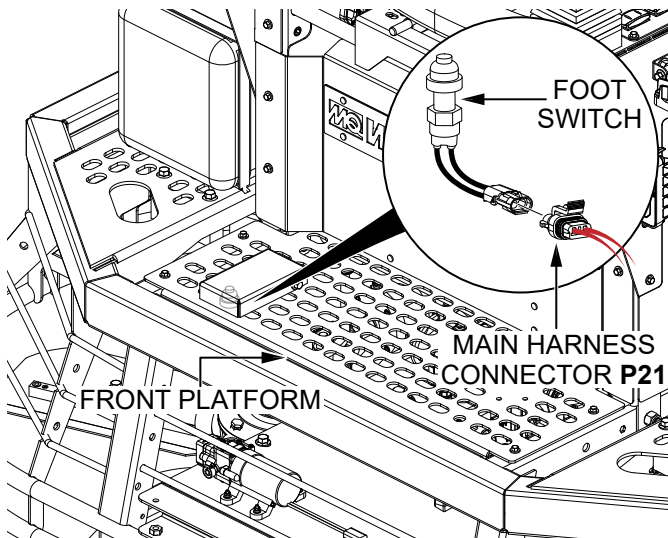

Figure 2. Disconnect Foot Switch
1. Reach underneath the **front platform** (Figure 2) and disconnect **main harness connector P21** from the **foot switch**.